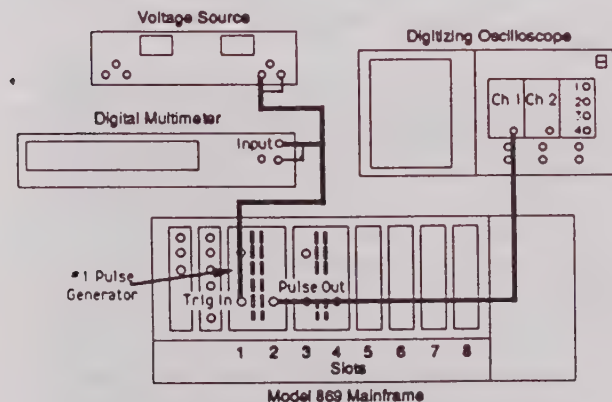

Figure 2-14. Trigger Level/Slope Hookup #1
1. Interconnect the required test equipment as shown in figure 2-14. The DC Source can be any voltage source or generator which can supply from 0V up to $\pm 10V$ into 50Ω .